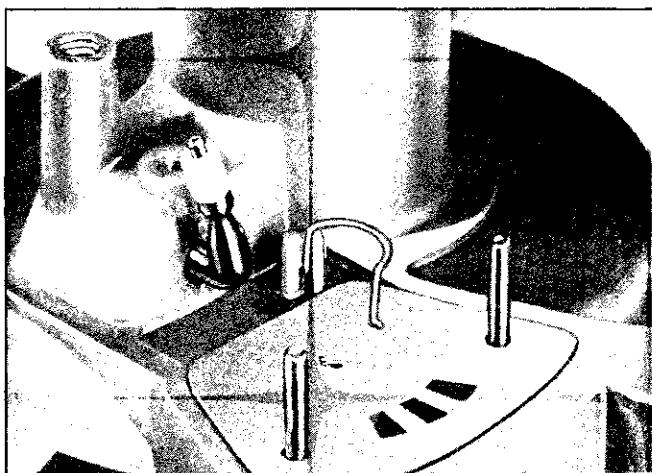

Fig. 4-21 Installing Valve Tension Spring in Boss
3. Install longer foot of valve tension spring in boss on first stage housing, being careful not to distort spring (Fig. 4-21).